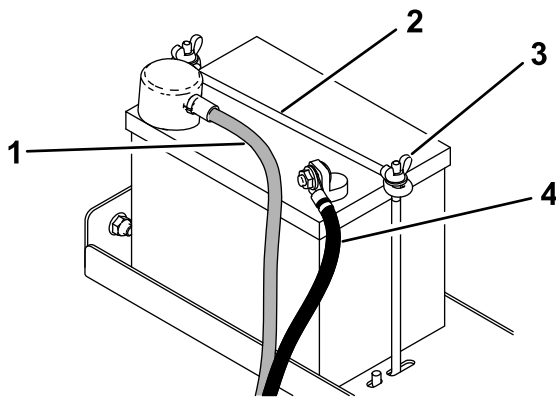

Figure 36
3. Remove the negative battery cable from the battery (Figure 36).
- Remove the positive battery cable from the battery (Figure 36).
- Remove the 2 wing nuts, securing rod, and the battery (Figure 36).
- Place the battery on the platform and secure it using the 2 wing nuts and the securing rod (Figure 36).
- Install the positive battery cable to the battery (Figure 36).
- Install the negative battery cable to the battery (Figure 36).